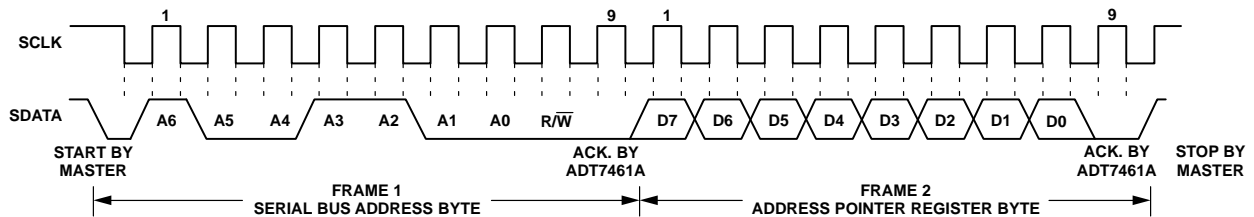
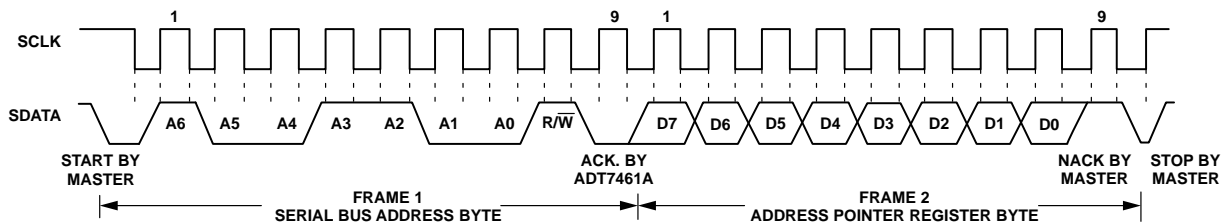

Figure 16. Writing to the Address Pointer Register Only
Figure 17. Reading Data from a Previously Selected Register
1. If the address pointer register value of the ADT7461A is unknown or not the desired value, it is first necessary to set it to the correct value before data can be read from the desired data register. This is done by writing to the ADT7461A as before, but only the data byte containing the register read address is sent, because data is not to be written to the register see Figure 16. A read operation is then performed consisting of the serial bus address, $\overline{R/W}$ bit set to 1, followed by the data byte read from the data register see Figure 17.
2. If the address pointer register is known to be at the desired address, data can be read from the corresponding data register without first writing to the address pointer register and the bus transaction shown in Figure 16 can be omitted.